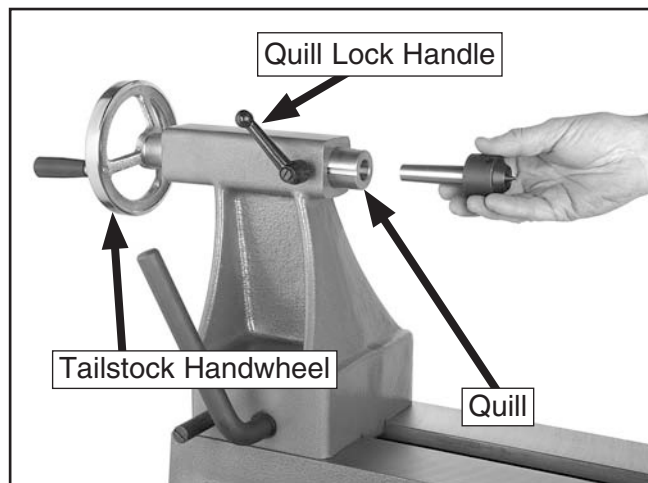

Figure 24. Installing center into tailstock quill.
1. Loosen the quill lock handle and rotate the tailstock handwheel until the quill extends out about 1" (see **Figure 24**).
3. Firmly insert the tapered end of the center into the tailstock quill, as shown in **Figure 24**.